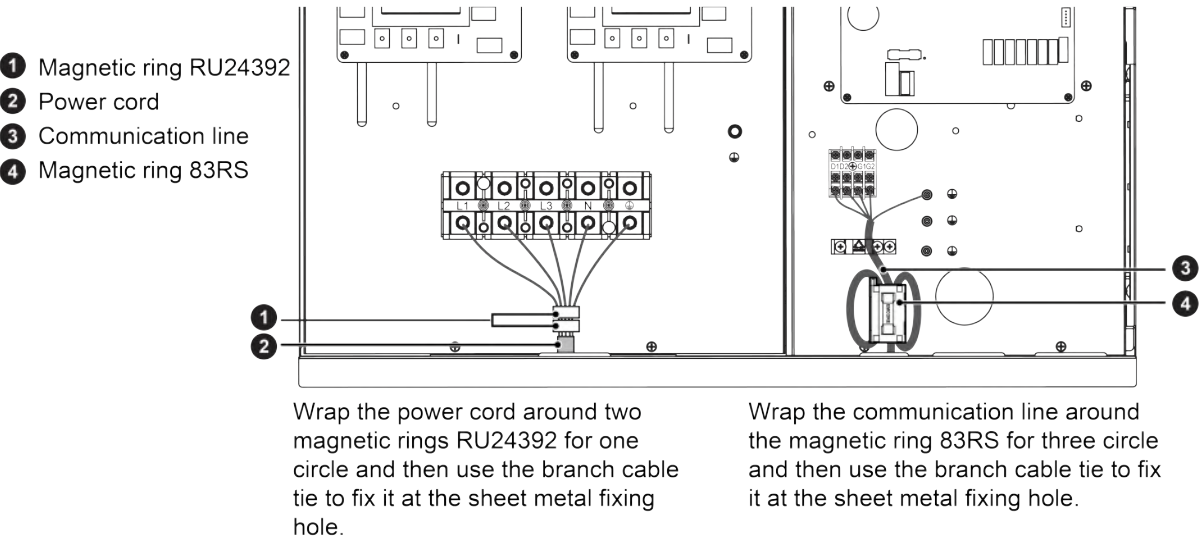

Fig.3.8.5
(7) For Model 730, Model 785 and Model 850 unit. See the Fig.3.8.5 for the illustration.